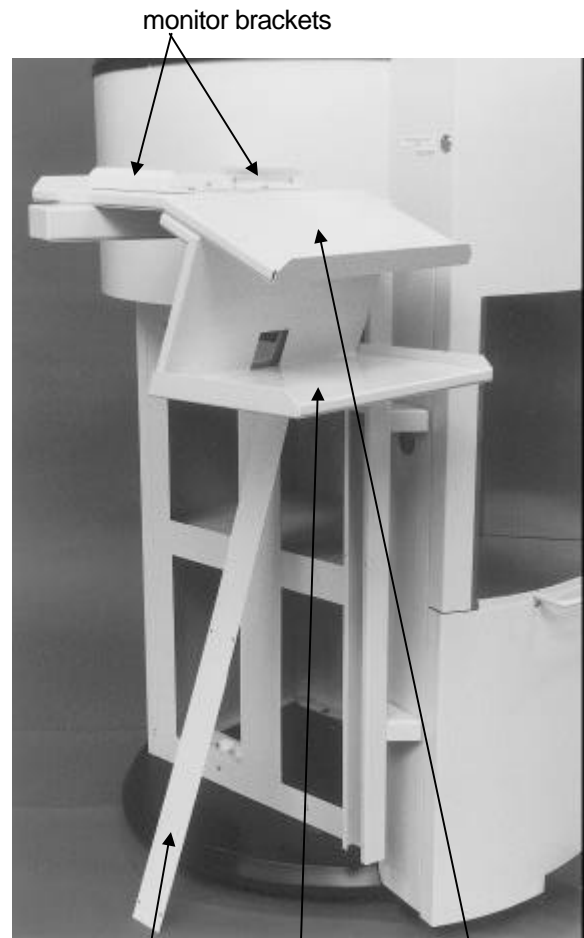

figure 7
- Adjust the monitor brackets (see figure 7) to the correct size and tighten them.